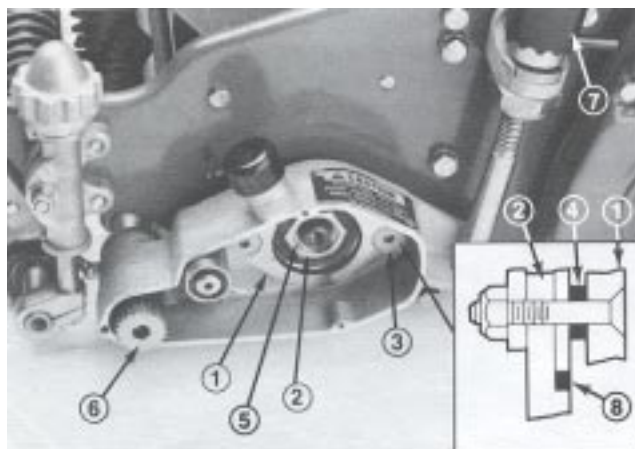

Figure 4
7. Slide one end of the grooming shaft assembly into the bearing support in the groomer housing assembly (Fig. 4). Mount the driven pulley (left hand thread) to the end of the groomer shaft and torque to 29 to 35 ft-lb, using a 3/8" allen socket on a torque wrench (Fig. 4).
- B. Remove bearing locknut from reel shaft (Fig. 4).